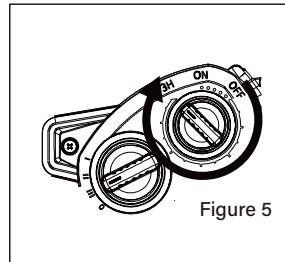

Figure 5
2. Operating status: First, turn the power switch to III, II, or I; then turn the timer counterclockwise to ON (Figure 4) or clockwise to OFF-3H (Figure 5).